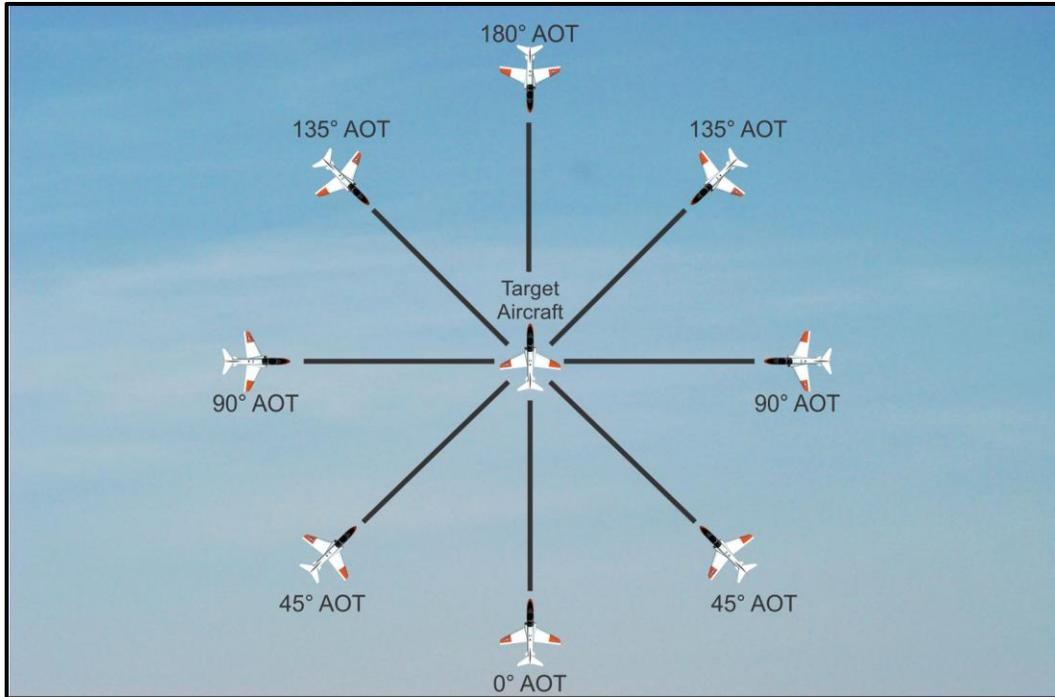

Figure 1-9 T-45C Angle-off the Tail (AOT)
- b. Angles Off the Tail (AOT) – The angular position relative to the bandit’s tail. AOT ranges from 0° (bandit’s tail) to 180° (bandit’s nose) and does not require any further amplification such as right or left Figure 1-9 illustrates different AOTs referencing a target aircraft. AOT is generally a measure of fuselage alignment and is a primary indicator of offensive advantage. Weapons envelopes are also defined in terms of angle-off.